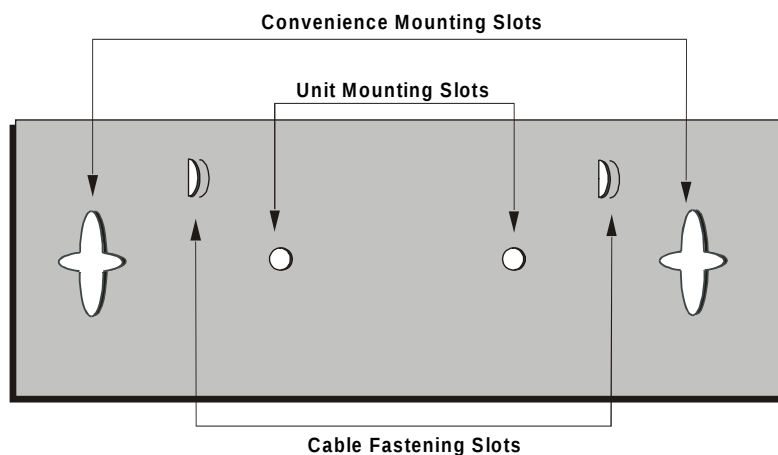

Figure 2-2. Wall Mounting Plate
3. Align the Unit Mounting Slots (see Figure 2-2) with the slots you have just unscrewed.
5. Align the Convenience Mounting Slots (see Figure 2-2) with the nails, push the wall mount against the wall and let it slide down until it rests on the nails.